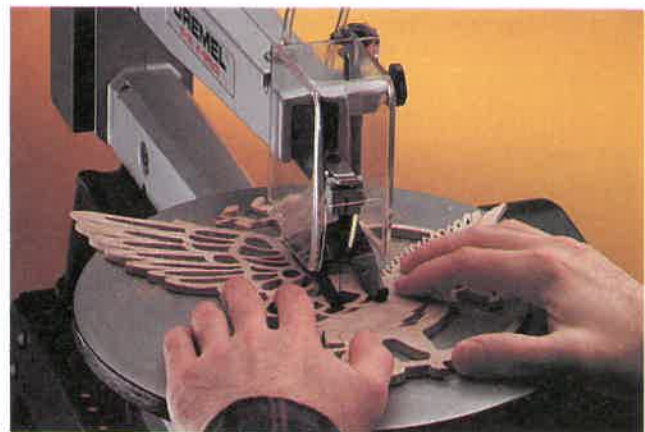

Fig. 3-20. Making a cut with fingers a safe distance from the blade. (Dremel)
5. When the saw is running, do not permit your fingers to get directly in line with the blade. The work can usually be held on either side of the cutting line, as shown in Fig. 3-20.